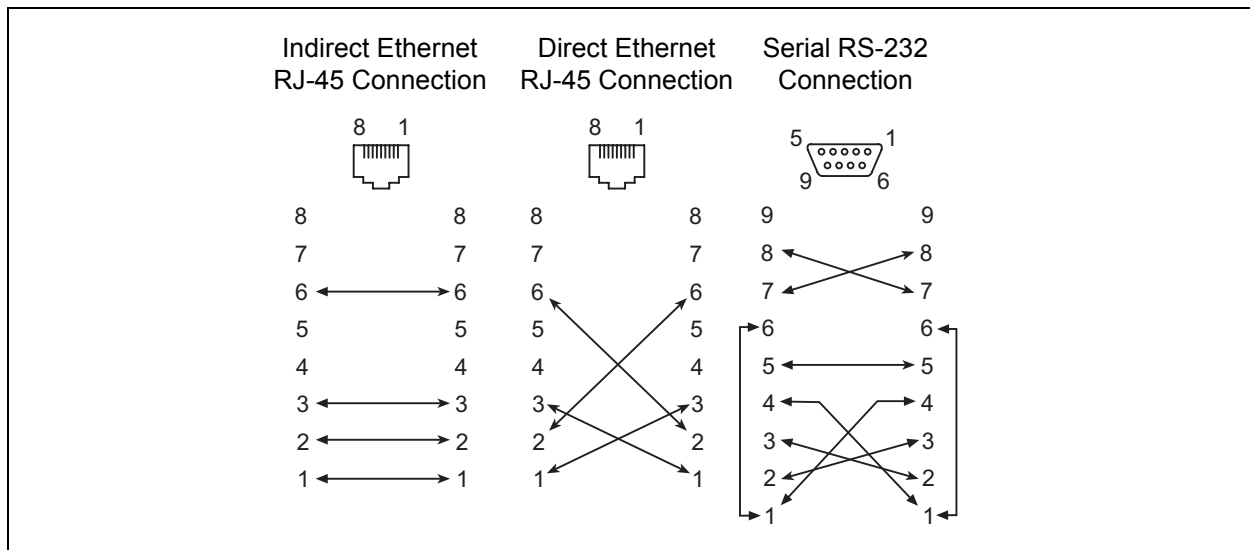

Figure 4-3. Workstation Cable Connections
- Indirect Ethernet connection from the management workstation to the switch RJ-45 Ethernet connector through an Ethernet switch or a hub. This requires a 10/100 Base-T straight cable as shown in Figure 4-3.
- Direct Ethernet connection from the management workstation to the switch RJ-45 Ethernet connector. This requires a 10/100 Base-T cross-over cable as shown in Figure 4-3.
- Serial port connection from the management workstation to the switch RS-232 serial port connector. This requires a null modem F/F DB9 cable as shown in Figure 4-3.